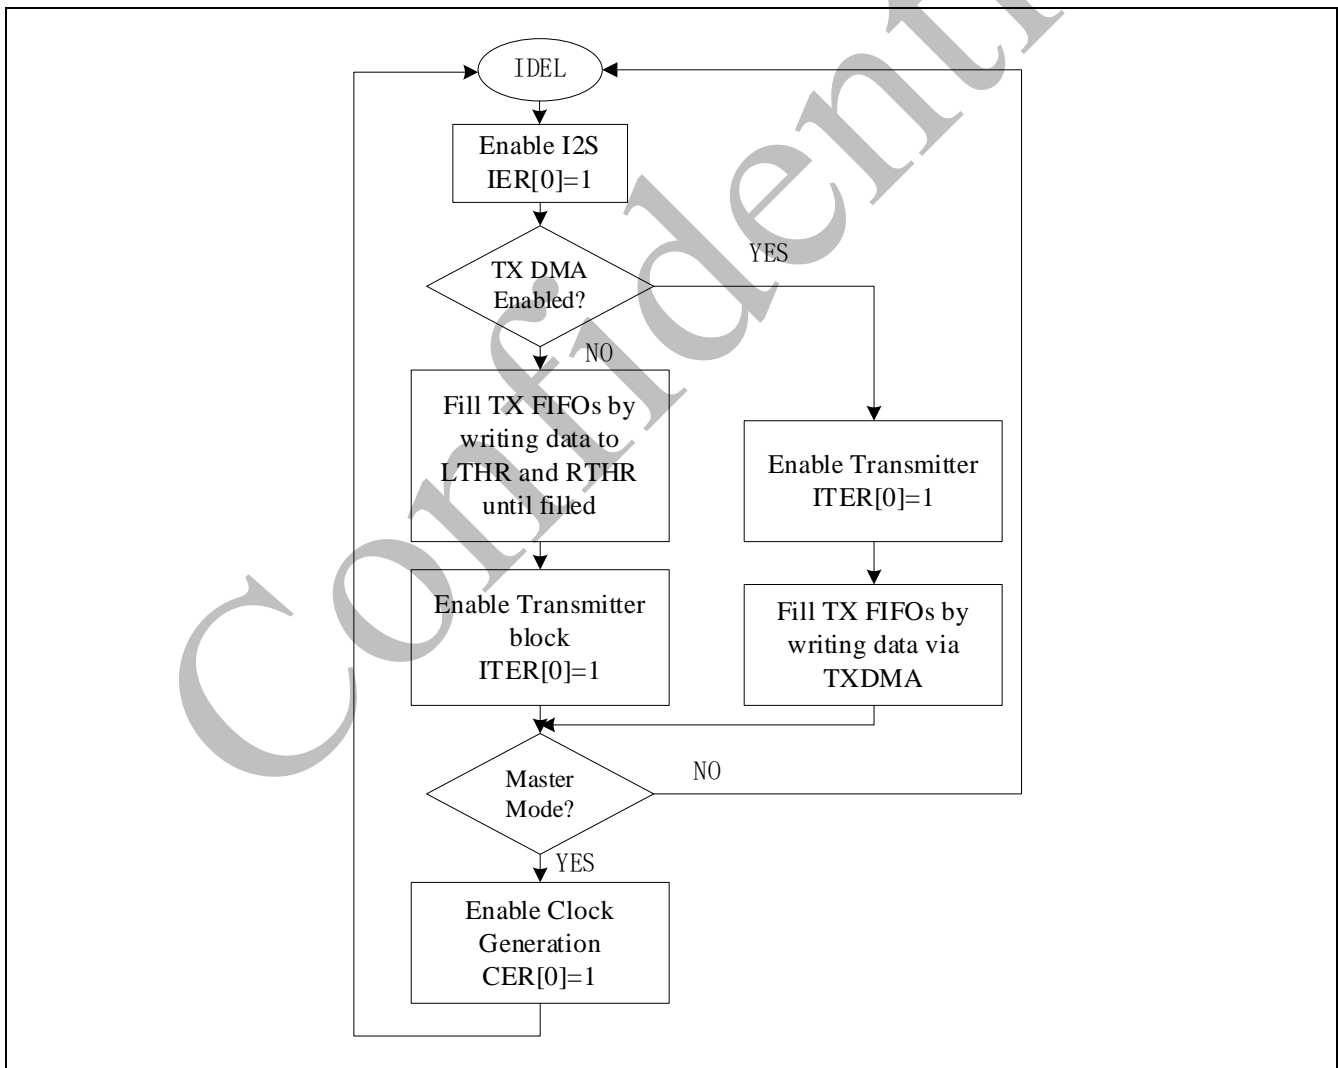

Figure 3-88 Transmitter Block Flow Chart
The I2S component supports only one stereo I2S transmit (TX) channel. This channel operates in master mode or slave mode. Stereo data pairs (such as, left and right audio data) written to a TX channel via the APB bus are shifted out serially on the appropriate serial data out line (sdo). The shifting is timed with respect to the serial clock ($sclk$) and the word select line (ws). The basic usage flow (I2S as Transmitter) is shown in Figure 3-88.